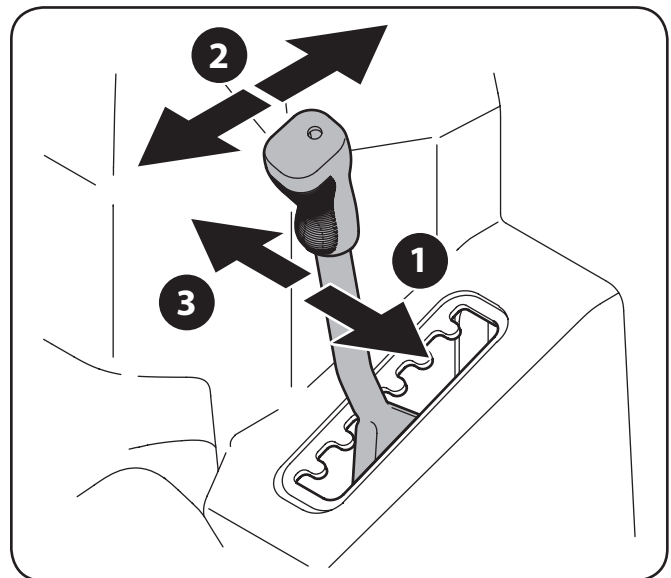

Figure 4-3
1. Pivot the deck lift lever outward (1 in Figure 4-3).
2. Move the lever forward to lower, and rearward to raise (2) the cutting height of the deck.
3. Allow the deck lift lever to pivot back towards the mowing attachment and into the locked position as shown in 3 of Figure 4-3.